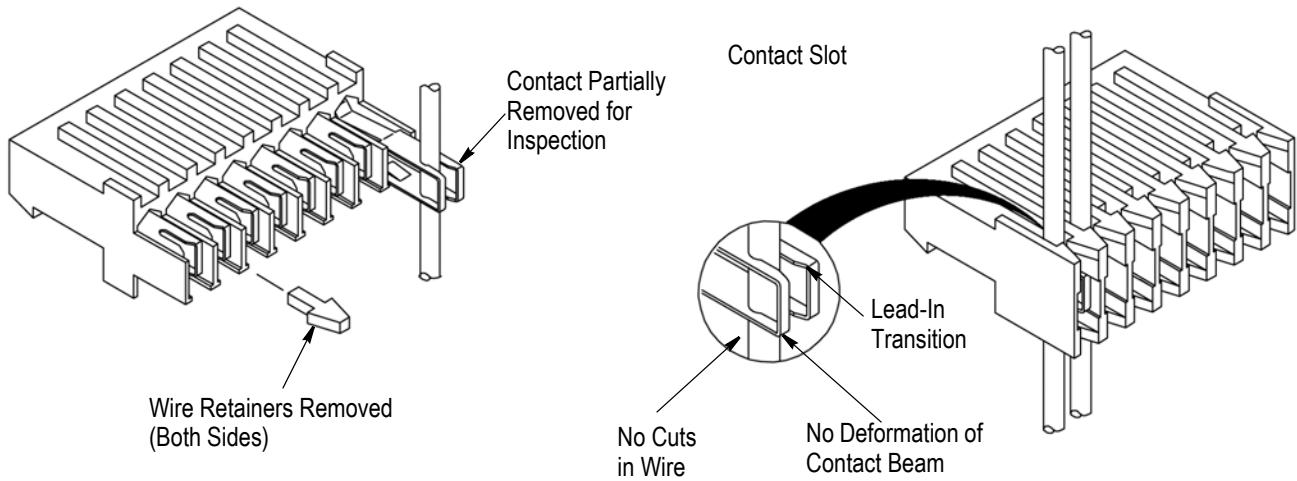

Figure 4
- Using a small knife, cut off the wire retainers (strain relief) from both sides of the test connector. See Figure 4.
7. Refer to Figure 4 and visually inspect the connector according to the following. If wire insertion depth is found to be improper, refer to Section 5 for head adjustments.